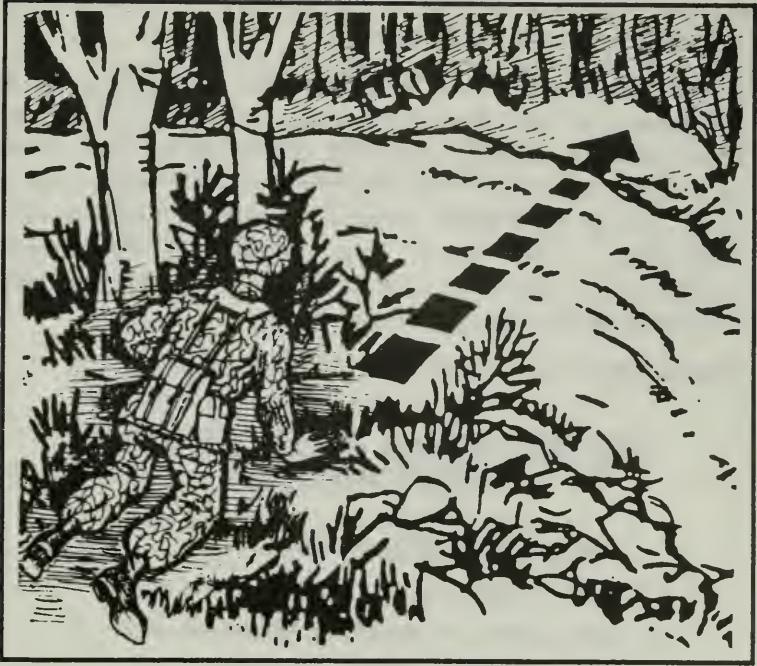

Figure 213. Crossing a danger zone.
3. To cross roads, trails, or small streams, select a point at or near a bend in the road or stream: If possible, select a bend that has cover and concealment on both sides. Crawl up to the edge of the open area and observe the other side carefully before crossing. Cross rapidly but quietly. Get down on the other side; check the area around you (Figure 213).